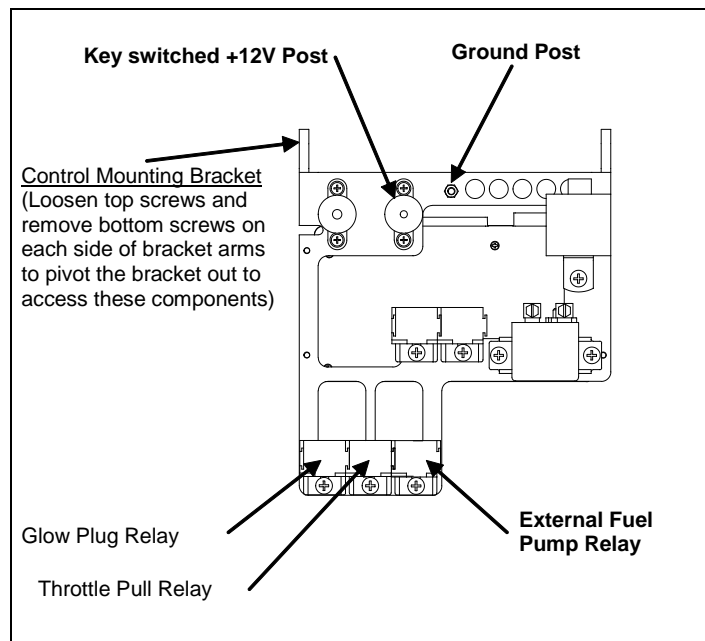

Figure 3 - Control Mount Assembly D600001/2
1. Unscrew the two lower bolts on each side on the control panel to swing down the control mount assembly. Figure 3.
3. Slide and attach the External Fuel Pump Relay holder beside the Throttle Pull Relay, as shown in Figure 3. Fasten the relay holders with the bolts.